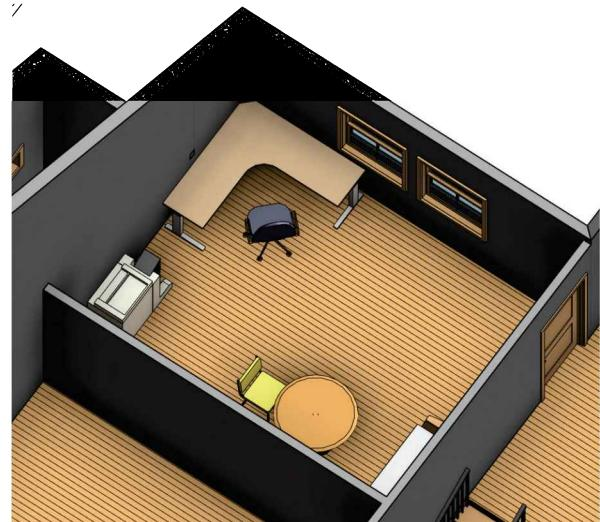

FIGURE 12-3.4 3D view with ceiling/roof/lights hidden
12. For more practice orbiting, adjust your **3D** view to look similar to **Figure 12-3.4**; try looking at the room from other angles as well.